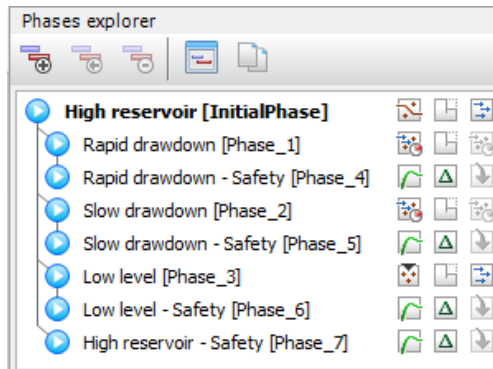

Figure 7.8 The final view of the *Phases explorer*
- Follow the same procedure for Phases 5 to 7. The final view of the *Phases explorer* is given in Figure 7.8.